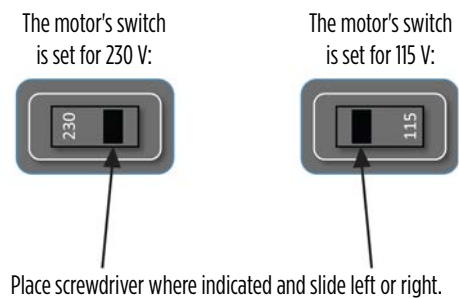

Figure 2 - VOLTAGE SWITCH
3. Slide the voltage switch from 230 V to 115 V, as shown in Figure 2